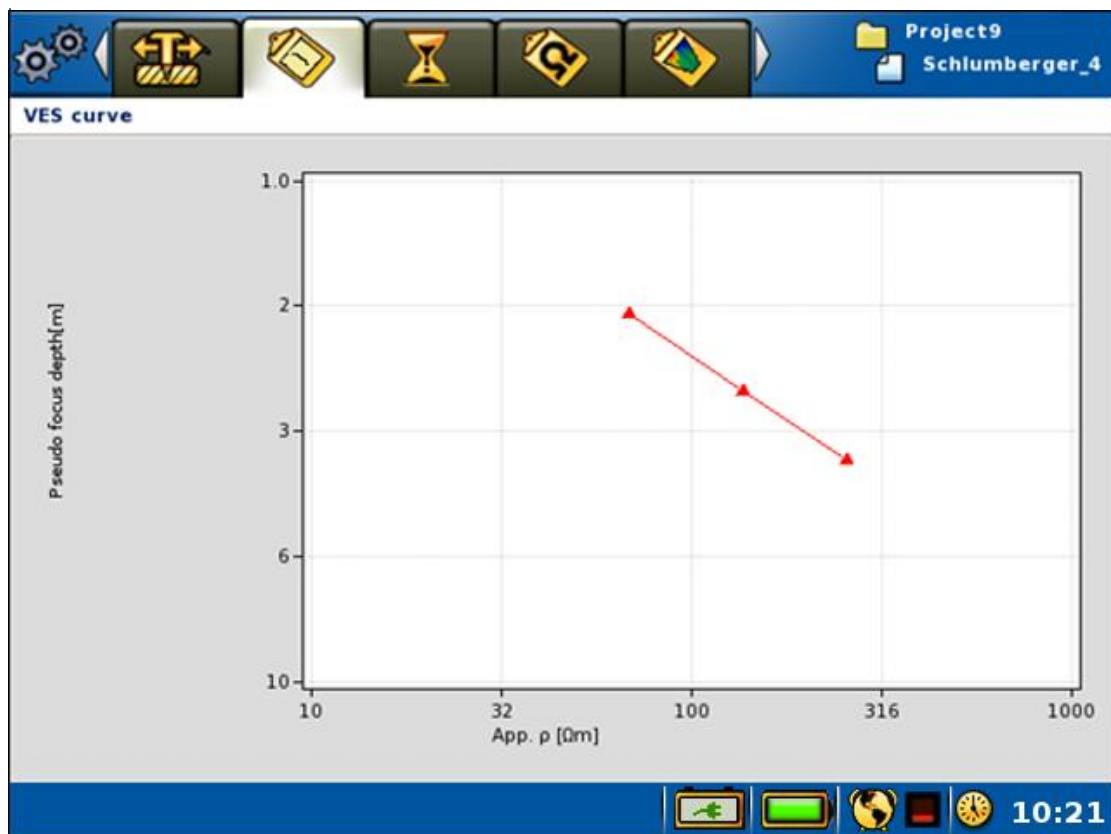

Figure 75 VES Curve View example
- The “*Measure/VES Curve*” View (Figure 75) displays a sounding curve of the made measurements
In VES mode a sounding curve will be shown in a double logarithmic diagram on the *VES Curve View* (Figure 75). Focus depth (median depth penetration) will be on the vertical axis and apparent resistivity on the horizontal axis.